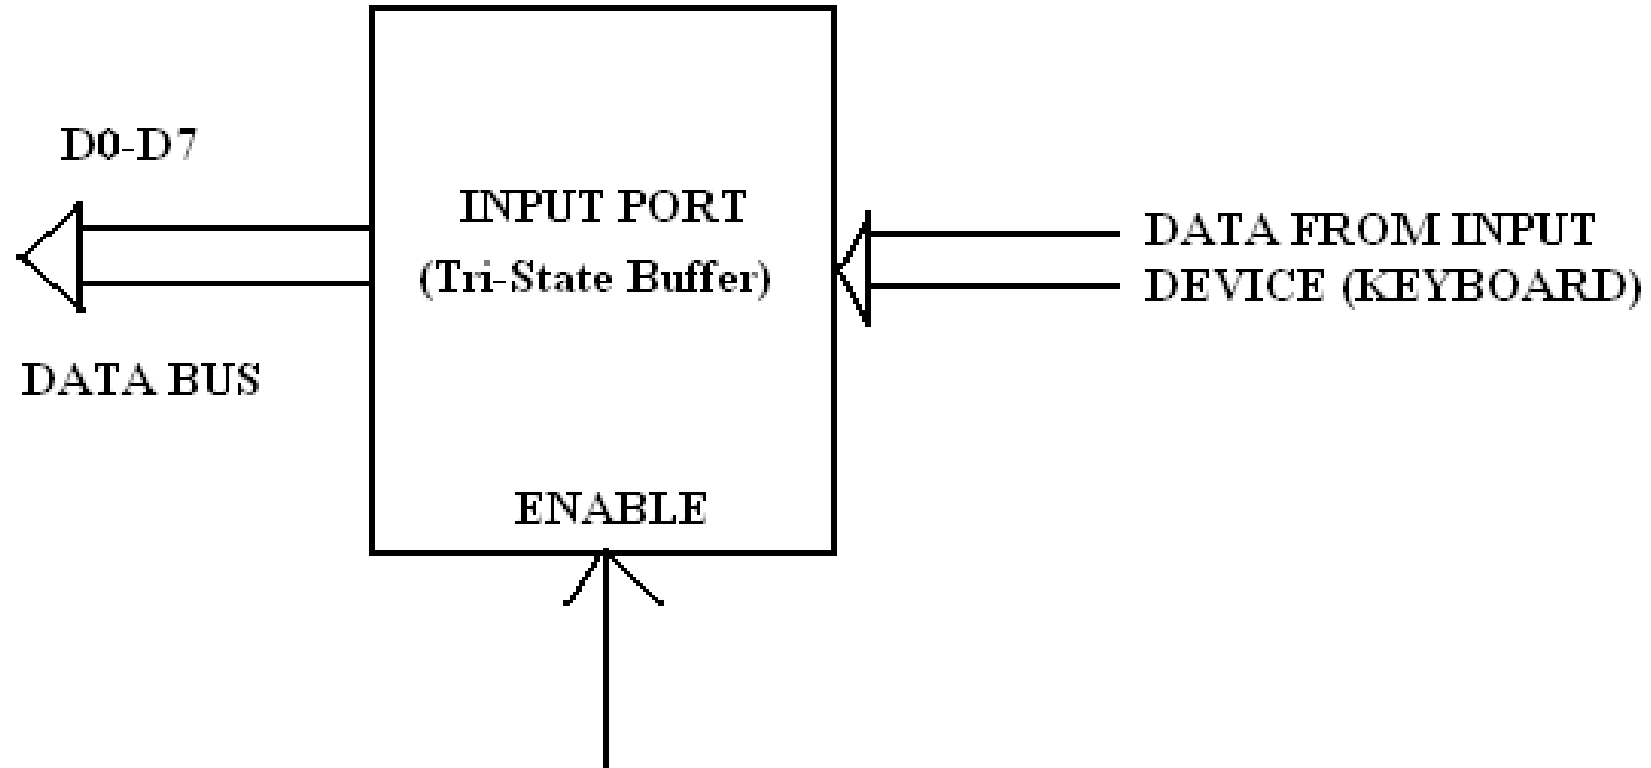

FIG.1 INPUT PORT
- It is used to read data from the input device such as keyboard. The simplest form of input port is a buffer. The input device is connected to the microprocessor through buffer, as shown in the fig.1. This buffer is a tri-state buffer and its output is available only when enable signal is active. When microprocessor wants to read data from the input device (keyboard), the control signals from the microprocessor activates the buffer by asserting enable input of the buffer. Once the buffer is enabled, data from the input device is available on the data bus. Microprocessor reads this data by initiating read command